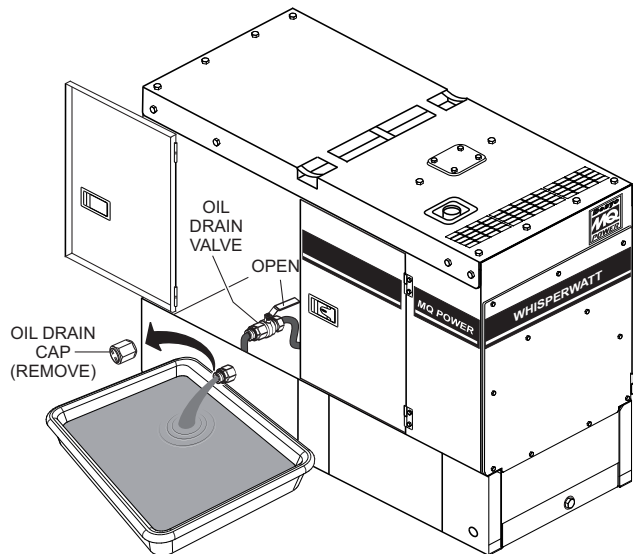

Figure 63. Draining Engine Oil
3. Remove the **oil drain cap** (Figure 63).